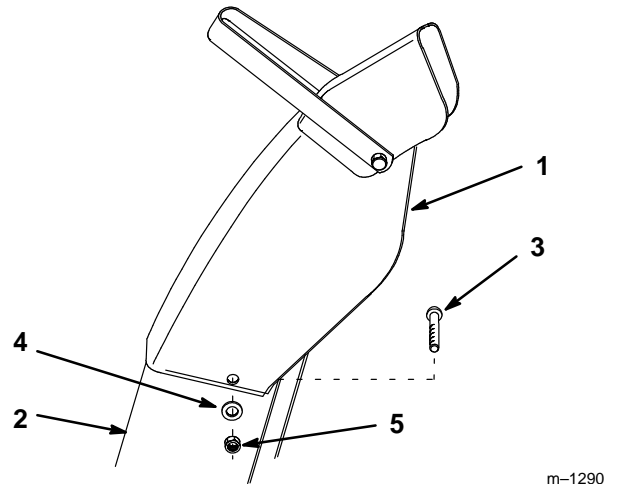

Figure 3
1. Assemble the upper discharge chute section outside and on top of the lower section with (3) 5/16 x 5/8" (16 mm) bolts (heads on the inside), (3) 5/16" (8 mm) washers and (3) 5/16" locknuts (Fig. 3).